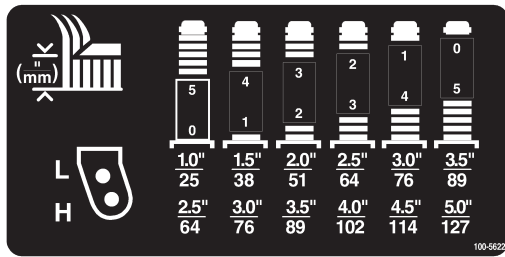

Figure 11
2. Slide the spacers onto the castor spindle to get the desired height-of-cut; refer to figure 11 to determine the combinations of spacers for the setting. Slide a thrust washer onto the spindle, push the castor spindle through the castor arm. Install another thrust washer and the remaining spacers onto the spindle and install the tensioning cap to secure the assembly (Fig. 5).
2. Position the castor wheel axles in the same holes in both castor forks. Refer to figure 11 to determine the correct holes for the setting.
Refer to figure 11 to determine the combinations of spacers for the setting.